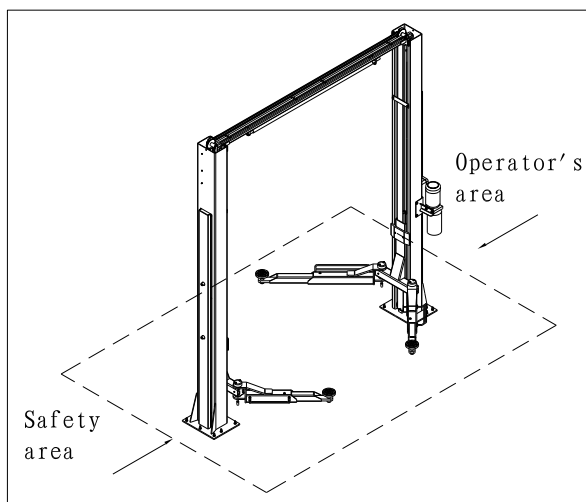

Fig. 10 Working Area
- ◆ People rest inside the safety area while the vehicle raising. **(Fig. 10)**